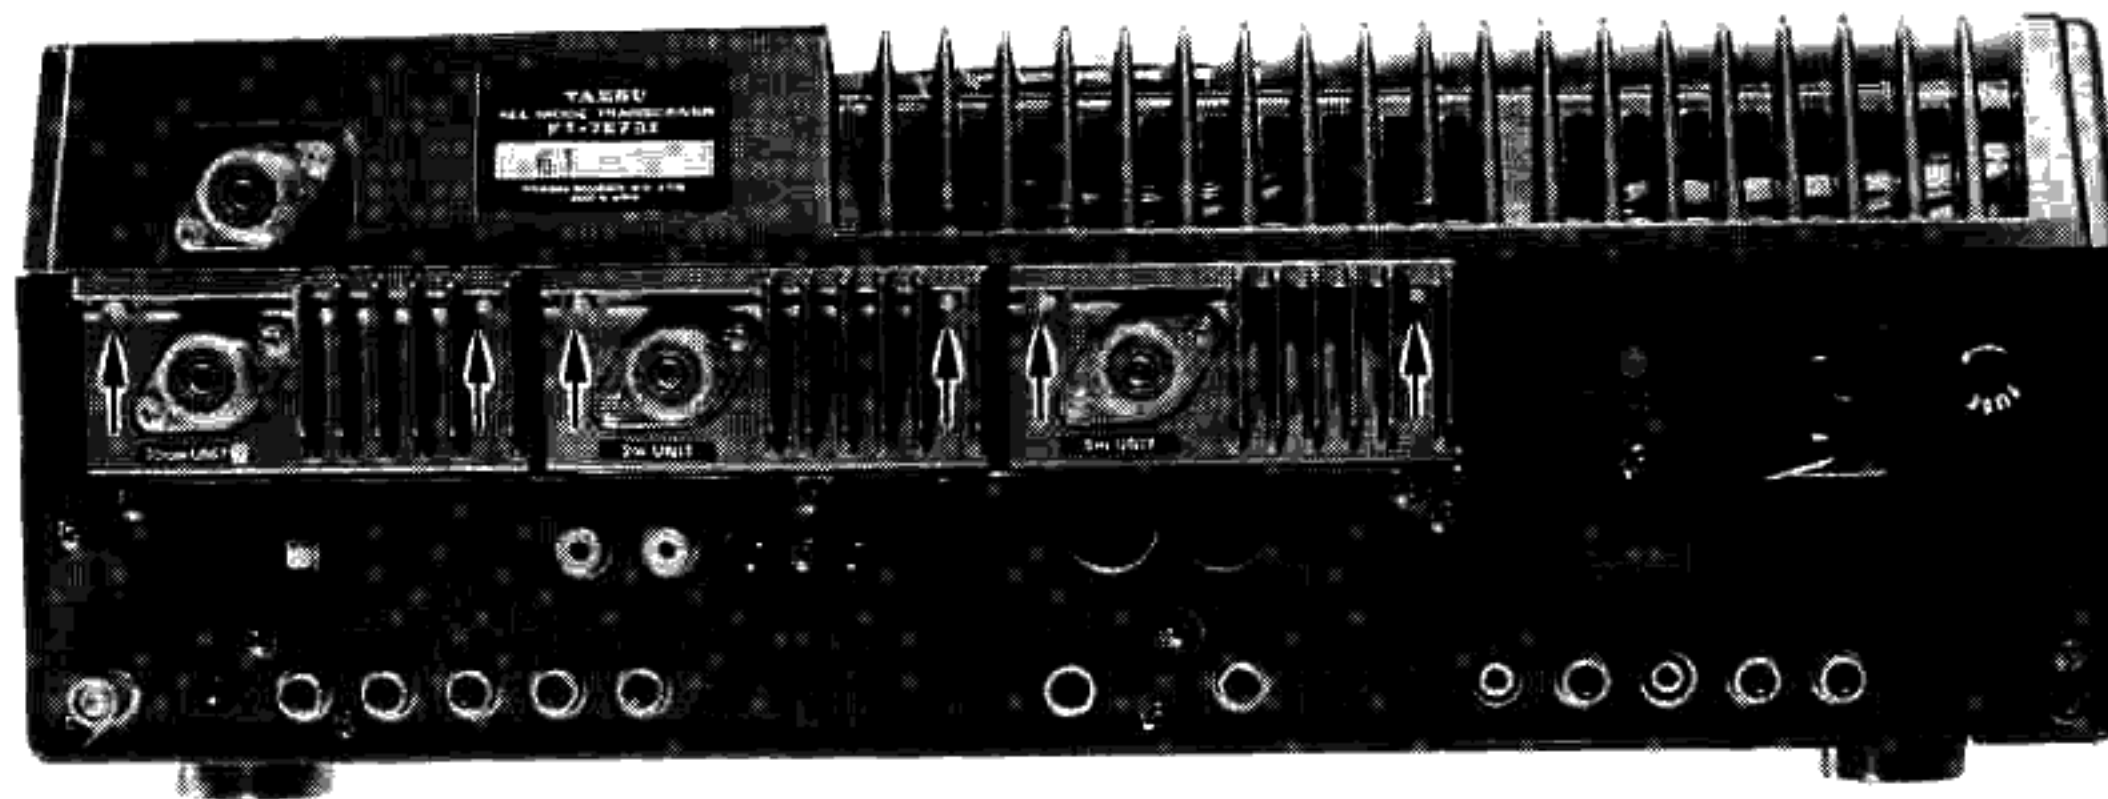

Figure 1
- (1) Switch off the transceiver and remove the AC power cable and all other cables from the rear panel.
- (2) Remove the two screws affixing each VHF or UHF Band Module, and slide the Modules out of the transceiver (Fig. 1).